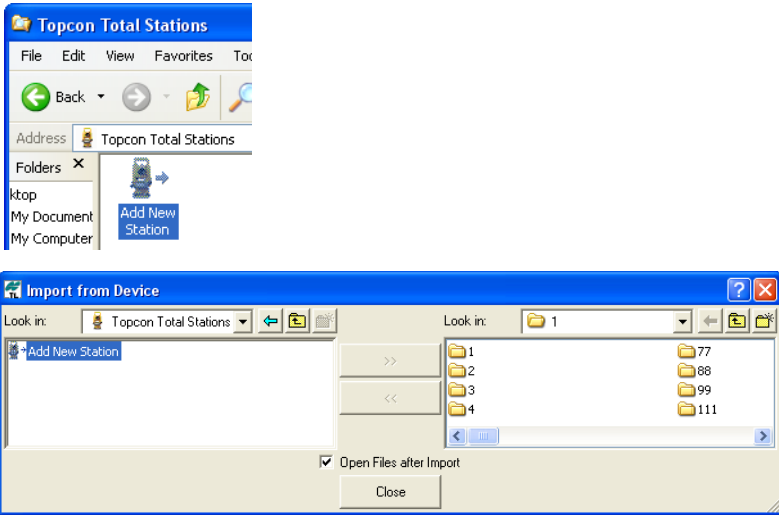

Figure 2-1. Add a New Topcon Total Station
1. Navigate to the *Topcon Total Station* directory (Figure 2-1 on page 2-4).
2. Double-click **Add New Station** (Figure 2-1).
1. Navigate to the *Sokkia Total Station* directory (Figure 2-1 on page 2-4).